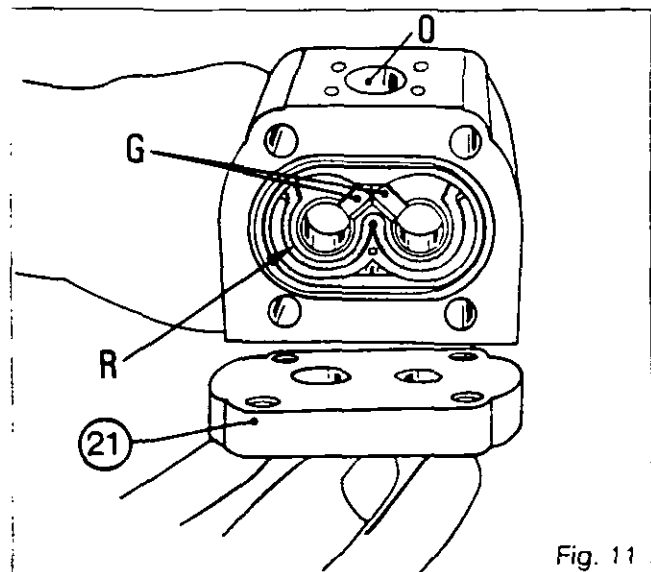
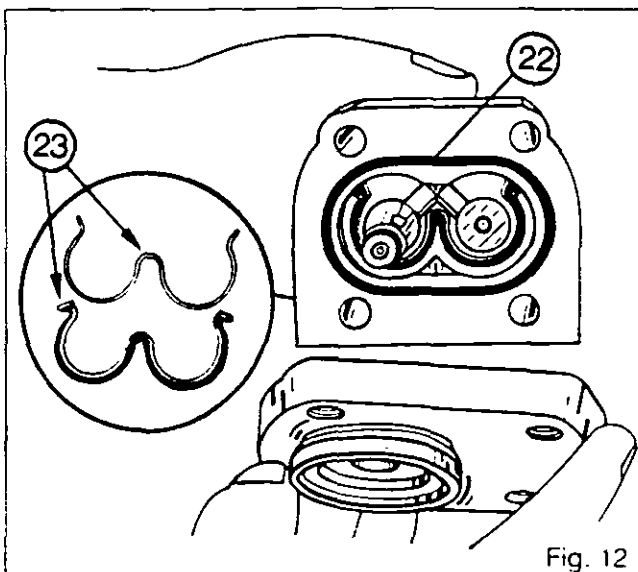

Fig. 11
Fig. 12
73. Fit the bearing assembly (27) (without recess), located by the pin (24), in the high-pressure stage (32). Position the lubrication channels «G» towards the intake orifice «O», and the groove «R» of the composite seal (23) towards the plate (21) (Fig. 11).
74. Place the pinions (28) and (29) of the high-pressure stage in the bearing assembly (27).
75. Position the composite seal (23) and seal (22) (Fig. 12).
76. Assemble the high-pressure stage (32) on the flange (21) according to the marks made at the time of disassembly.